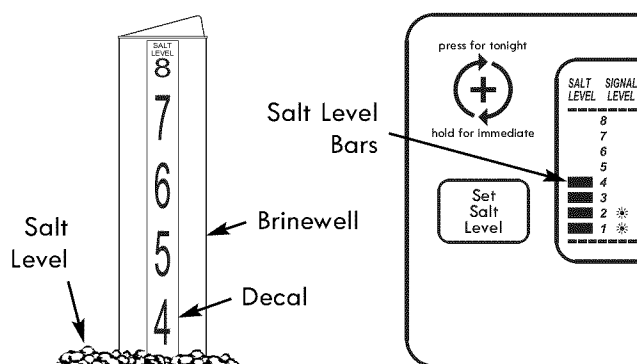

Figure 24
2. The yellow salt level decal, on the brinewell inside the tank, has numbers from 0 to 8 (see Fig. 24). Observe the highest number the leveled salt is at, or closest to.
3. Press the SET SALT LEVEL button as many times as necessary to make the salt level bars in the display (see Fig. 24) match the number on the decal. At level 2 or below, the “Low Salt” indicator will flash.